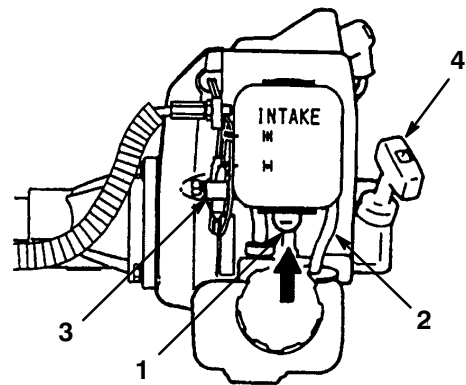

Figure 11
1. Pump the primer bulb at the bottom of the carburetor until fuel can be seen flowing through the fuel return line to the fuel tank (Figs. 11). (Flowing fuel should be almost clear, not foamy or full of bubbles.)
2. Move the choke lever to the closed ($\overline{\text{L}}$) position and move the stop switch to the “ON” position (Figs. 11 and 12).
4. After the engine starts, move the choke lever to the open ($\overline{\text{O}}$) position, then squeeze and release the throttle trigger to allow it to return to the idle position (Figs. 11 and 12).
- A. Go ahead and open the choke (Fig. 11).
1. Pump the primer bulb at the bottom of the carburetor until fuel can be seen flowing through the fuel return line to the fuel tank (Figs. 11).
2. Move the choke lever to the open ($\overline{\text{---}}$) position and move the stop switch to the “ON” position (Figs. 11 and 12).
3. Leave the throttle trigger in the idle position and pull the starter handle (Figs. 11 and 12).